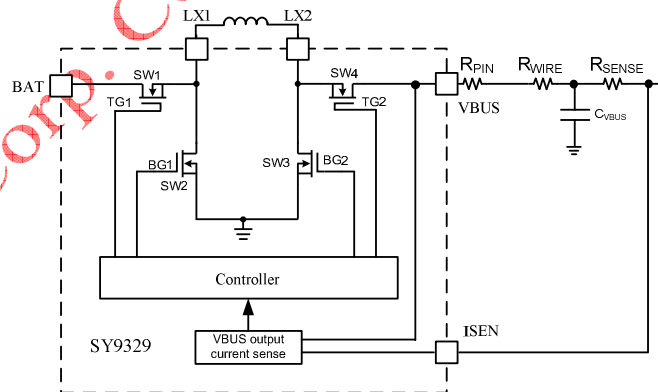

Fig. 6. Description of VBUS Output Current Limit
The SY9329 provides a function for VBUS output current limit by sensing the voltage drop between VBUS pin and ISEN pin (as shown in fig.6). Once the voltage difference ( $V_{VBUS} - V_{ISEN}$ ) exceeds the voltage threshold, which can be configured by register 0x02[7:5], the internal control loop will regulate the output current by decreasing duty cycle until UVP or OTP is triggered. Noticing that the effects of  $R_{PIN}$  and  $R_{WIRE}$  cannot be ignored, the actual limit current  $I_{LIMIT}$  can be calculated as given in Equation (2):